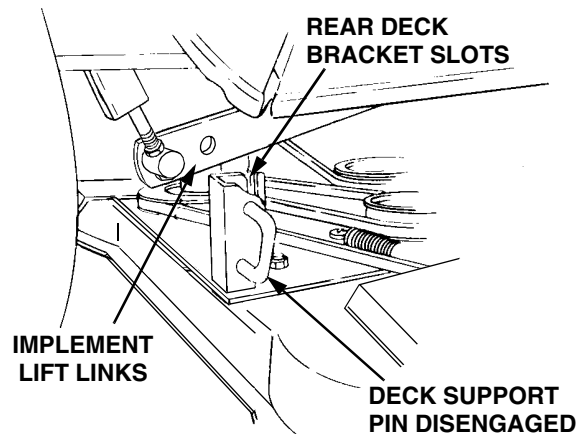

Figure 34
- If not already done, pull the deck support pins outward, turn downward and release so both spring-loaded pins are held in the disengaged position against the outer surface of the deck brackets (Refer to Figure 34).